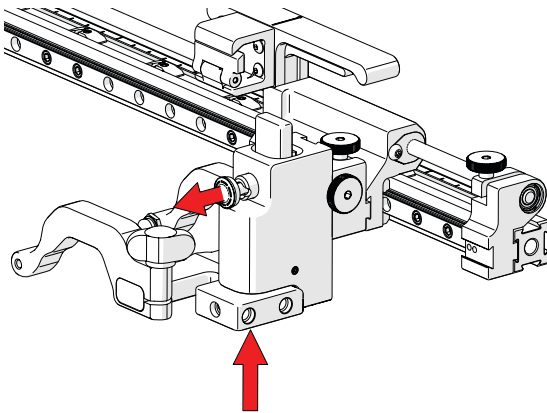
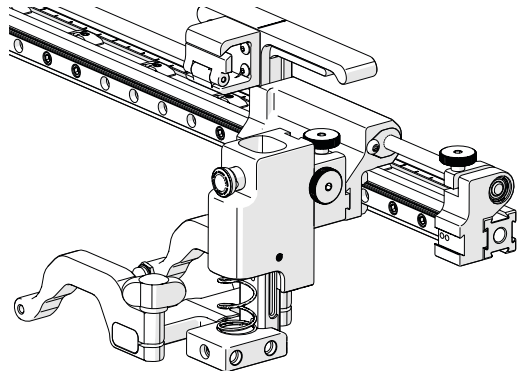

Fig. 32 - Press up and pull latch
Fig. 33 - Lowered toward scan surface
1. Gently lift the heavy duty probe holder and simultaneously pull the latch (Fig. 32). This action will unlock the probe holder. Slowly lower the probe holder towards the scan surface (Fig. 33).